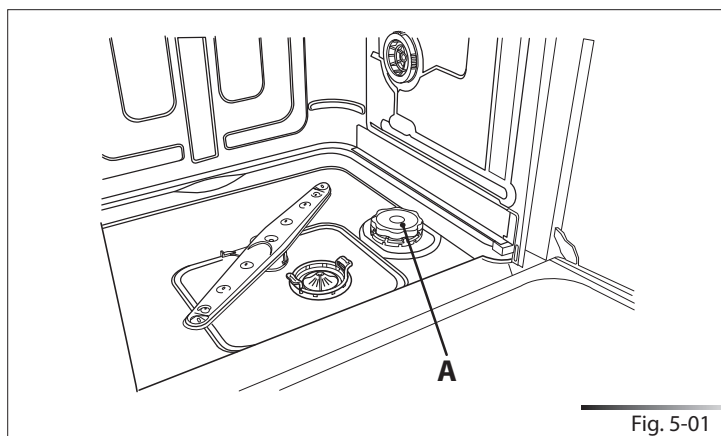
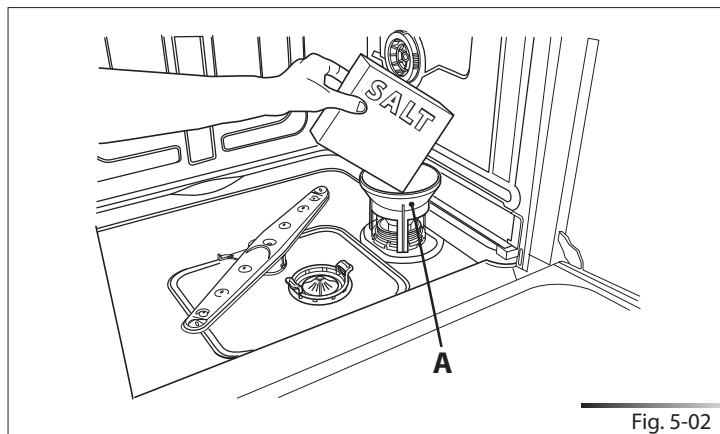

Fig. 5-01
Fig. 5-02
The amount of scale contained in the water (water hardness index) can cause whitish staining on the dry dishes, which tend to become dull over time. The dishwasher is equipped with an automatic softening system which uses a special regenerating salt to reduce the hardness of the water. The dishwasher is factory set for water hardness level 3 (average hardness **41-60°dF – 24-31°dH / 23.6-35 gpg**). When using water of medium hardness, the regenerating salt container should be refilled after approximately 20 washing cycles. The salt container can hold approximately **1.7 Kg (3.75 lb)** of salt in grains. Some models are equipped with an optical no-salt indicator. In these models, the cap of the salt container contains a green float which descends as the salt concentration in the water drops. When the green float can no longer be seen, the container must be topped up with regenerating salt. The container is situated at the bottom of the dishwasher. After removing the lower rack, unscrew the salt container cap (ref. A fig. 5-01) by turning it anticlockwise and pour in the salt using the funnel (ref. A fig. 5-02) supplied with the dishwasher. Before replacing the cap (ref. A fig. 5-01), remove any salt residues from around the opening.
- Each time the salt container is refilled, make sure **that the cap (ref. A fig. 5-01) is securely closed**. The mixture of water and detergent must never penetrate the salt container, as this would compromise the operation of the regeneration system. In the event of this occurring, the warranty will be invalidated.